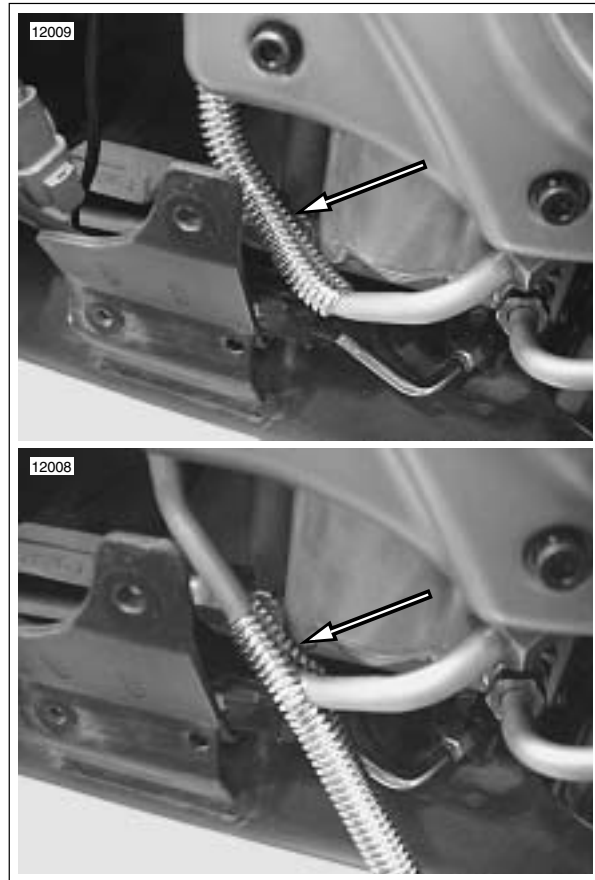

Figure 3-19. Removing Convolute Cover From Oil Line
- a. See Figure 3-19. Remove convolute covering from return oil line.